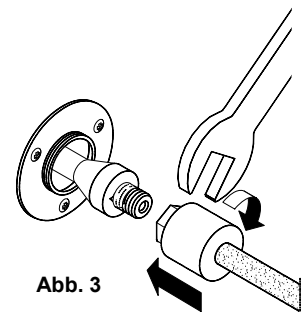

Abb. 3
3. Choose the suitable technical nozzle. Screw it on the threads with the threaded opening at the hexagonal side by means of a flat wrench (wrench size 17 mm). But careful, so that the copper threads are not damaged. (Fig. 3)